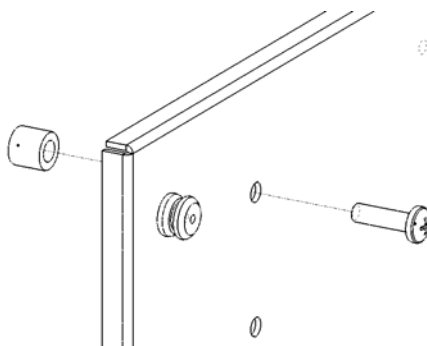
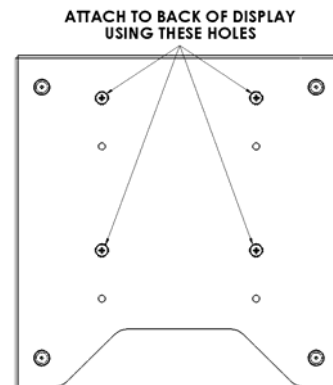

Figure 4
Figure 5
3. Using M8 screws, secure brackets to the display. Do not over tighten screws. (see Figure 4 & Figure 5).